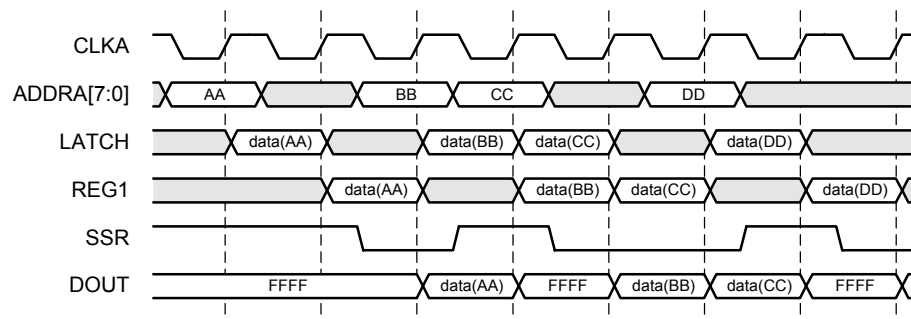
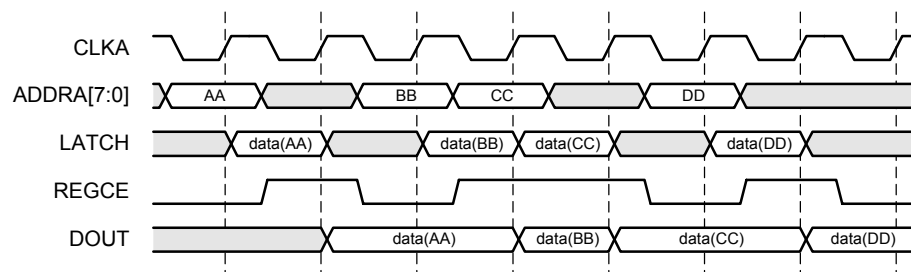

Figure 18: Flow Control Using SSR
Figure 19: Flow Control Using REGCE
The combination of the enable (EN), reset (SSR), and register enable (REGCE) pins allow a wide range of data flows in the output stage. Figure 18 and Figure 19 are examples on how this can be accomplished. Keep in mind that the SSR and REGCE pins apply only to the last register stage.
Figure 18 depicts how SSR can be used to control the data output to allow only intended data through. Assume that both output registers are used, the port A reset value is 0xFFFF, and that EN and REGCE are always asserted. The data on the block RAM memory latch is labeled LATCH, while the output of the block RAM embedded register is labeled REG1. The output of the last register is the output of the core, DOUT.
Figure 19 depicts how REGCE can be used to latch the data output to allow only intended data through. Assume that only the memory primitive registers are used, and that EN is always asserted and SSR is always deasserted. The data on the block RAM memory latch is labeled latch, while the output of the last register, the block RAM embedded register, is the core output, DOUT.